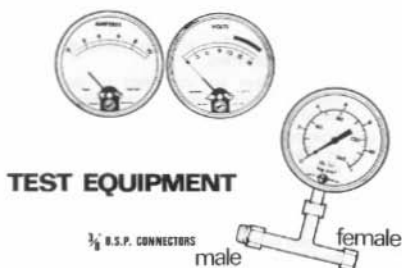

Fig. 13
- (i) Pressure gauge (see Figure 13) scaled for reading up to at least 160  $\text{lb/in}^2$  (1103-20  $\text{kN/m}^2$ ).